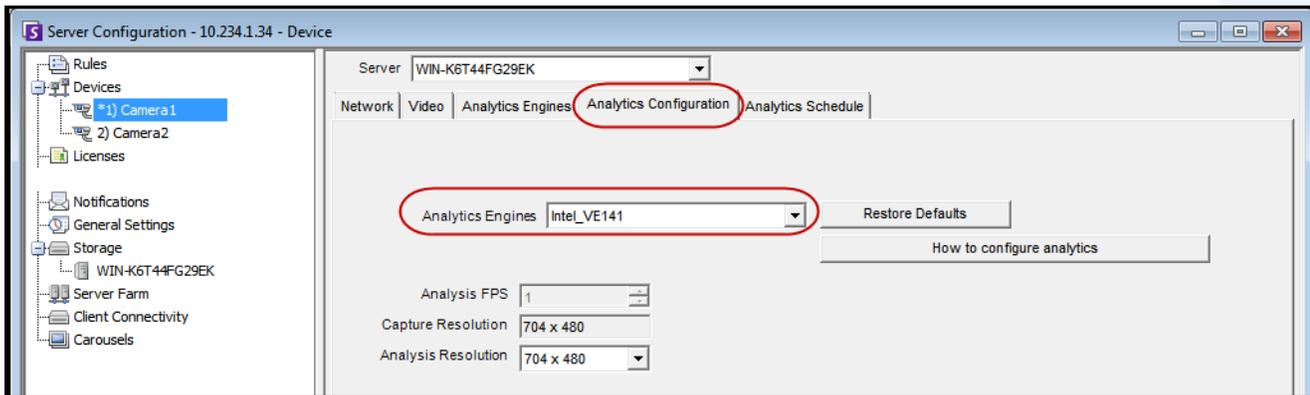

Figure 8. Analytics Configuration tab for VE141
5. Click the **Analytics Configuration** tab (Figure 8).